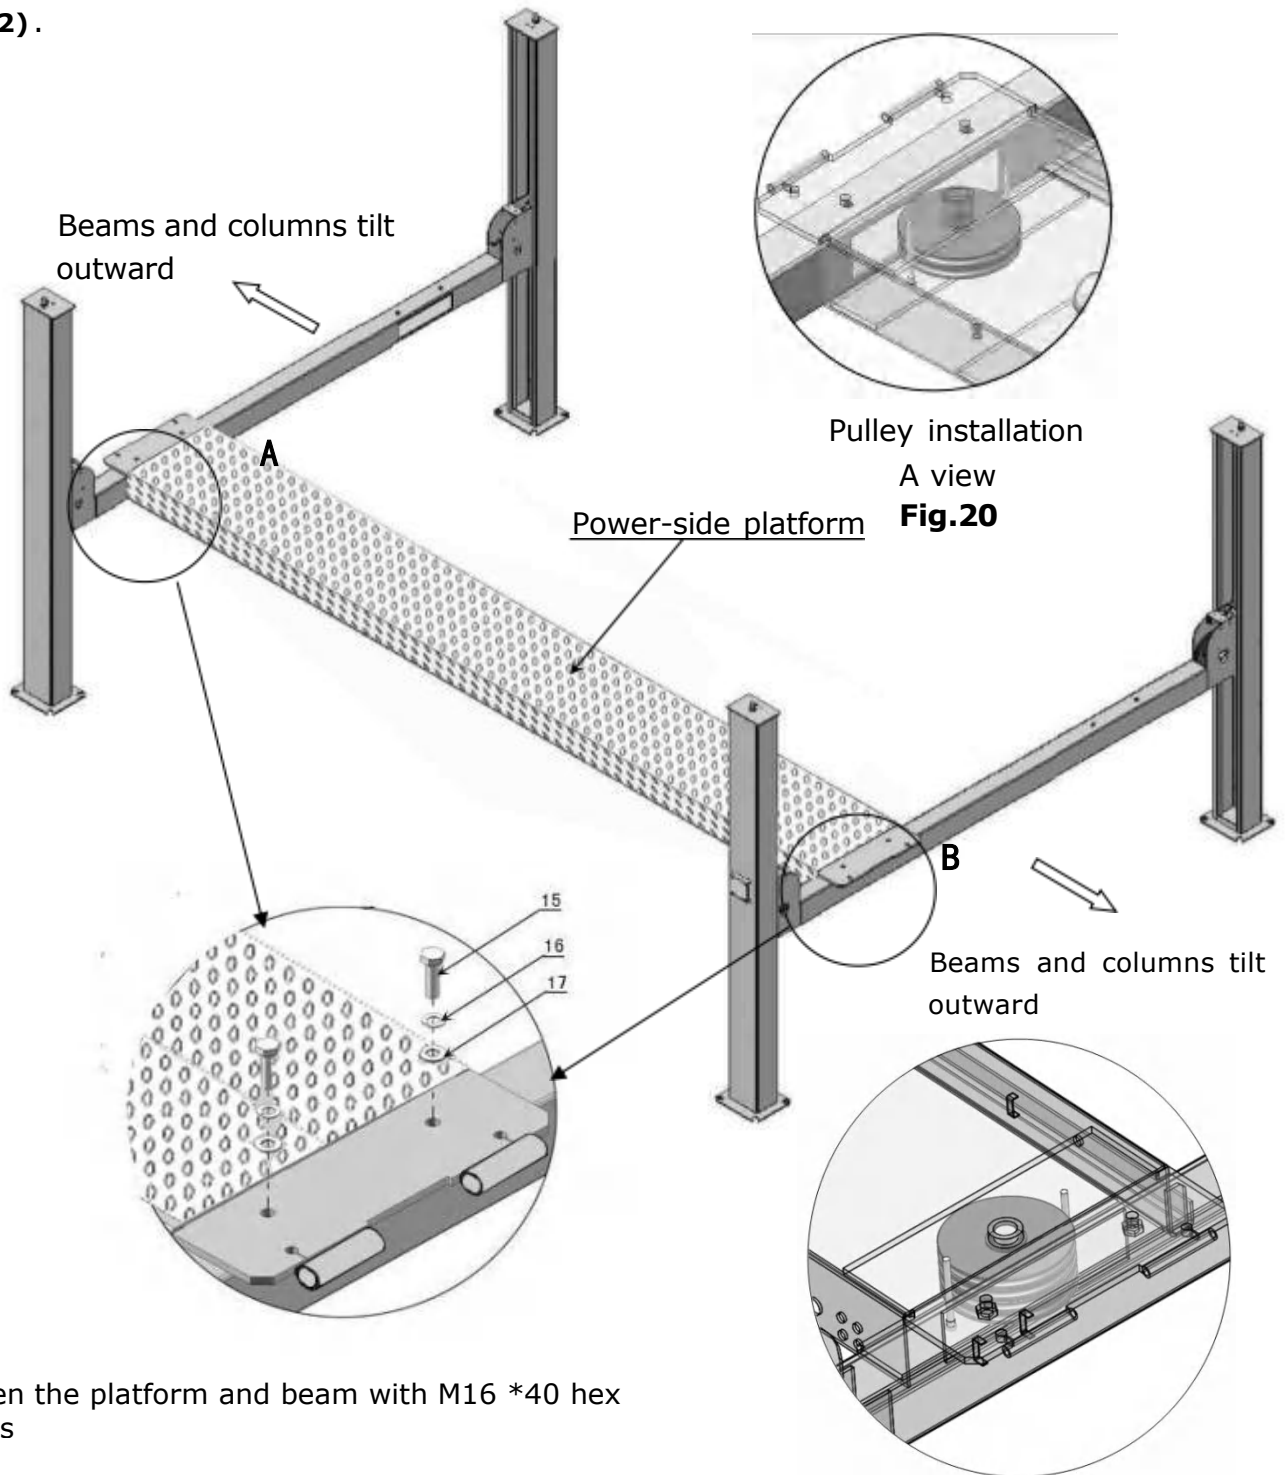

Fig.22
1. Put the power-side platform upon the cross beams by forklift or manual, offset the cross beams to the outside till the pulleys of both platforms can set up into the cross beam (See Fig.20,21), Install the power-side platform and screw up the bolts (See Fig.22) .